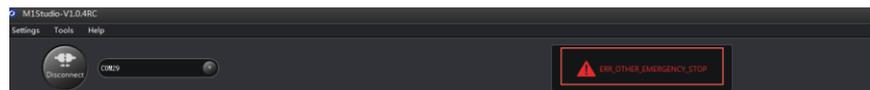

Figure 5.16 Alarm tip
**Step 4** Double-click the alarm tip generated on the M1Studio page, as shown in Figure 5.16